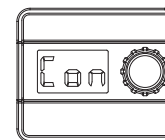

Fig. 52
When turn on the heater, the main screen is black or displays "Con", indicating that the wiring harness of the switch is not securely connected, please check (See Fig. 52).
7.3.5.1.2 - When any one of the other three wire harness are disconnected, the buzzer will sound continuously, and the screen displays "Con" (See Fig. 52). After 5 seconds, the "Circuit Board" will execute the shutdown process to turn off the heater. The "Circuit Board" takes the heater's shutdown as a normal shutdown.